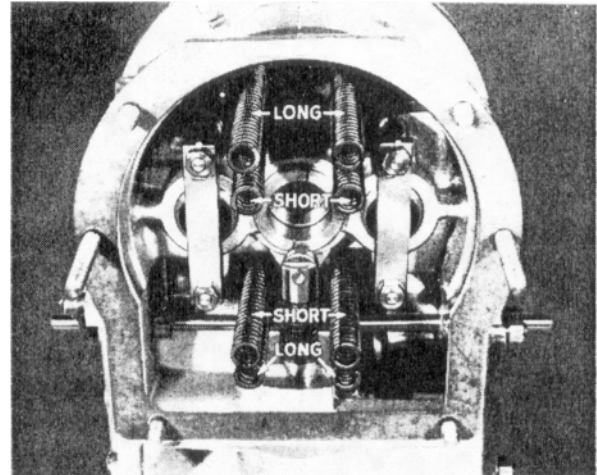

Fig. 34 Showing correct location of four springs.
16. Ensure that the eight springs in the overdrive unit are correctly located, as shown in Fig. 34. Previously these springs were identified by colouring—the outer ones being painted red and the inner, or shorter ones, blue. This method of identification is no longer necessary as the middle springs are appreciably shorter than those fitted at the top and bottom of the casing.
- (b) Ensure that the eight springs in the overdrive unit are correctly located, as shown in Fig. 34, that is, the long springs on the outside and the short springs nearer the centre.